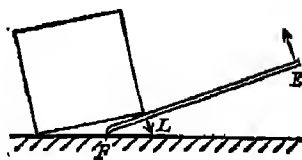

FIG. 144.
2. A **crowbar** used as shown in Fig. 144. The fulcrum is on the ground, and the load between the effort and the fulcrum.